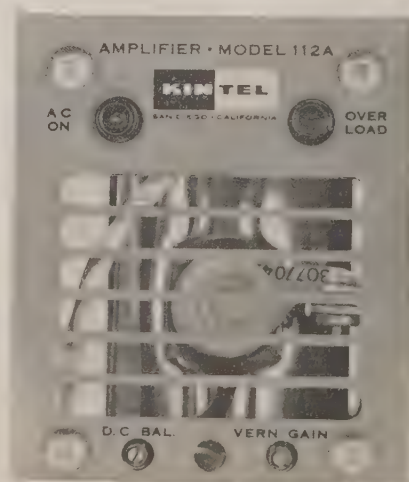

Figure 2-14. Integral Front Panel, Showing Controls
straightforward manner. Application of AC line voltage by connecting the line cord of the associated housing to a nominal 117-volt source (and -- when the Model 195 Cabinet is used -- switching the AC switch to the ON position) will cause the front panel AC ON lamp to glow. (See Figure 2-14.)
2-44. VERNIER GAIN CONTROL. To obtain gain as set by the configuration of the Function Plug-In, the VERN. GAIN control (screwdriver-adjustable pot accessible through the extreme right aperture just below the air intake slots and just above the panel handle) must be set in the extreme counterclockwise position. (See Figure 2-14.) If desired, the set gain may be increased to as much as twice that determined by the Function Plug-In by rotating the VERN. GAIN pot clockwise.
- c. If the microvoltmeter does not read zero, adjust the DC BAL. control (Figure 2-14) on the upper front panel of the amplifier until a zero reading is obtained.